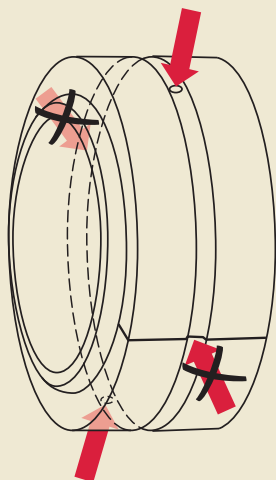

Fig. 2
Non-locating bearings, where axial displacement takes place along the shaft or pin, should always be relubricated via the shaft and bearing inner ring (→ **fig 2** on **page 86**). By supplying lubricant in this way, grease also enters between the mating surfaces of the inner ring and shaft seat. This reduces friction and induced axial loads when axial displacement occurs.
- a mounting dolly (→ **fig. 2**) or length of tubing; the ring with an interference fit should generally be mounted first